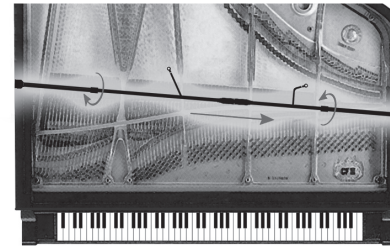

Figure 9. Favoring the High Strings
7. With the PianoMic™ in place, you will need to determine if you want the microphones to favor the high strings, low strings or neither. The center section of the PianoMic™ can slide up to eight inches in either direction in order to favor the high or low strings, if desired. This positioning is illustrated in *Figures 9* and *10*.